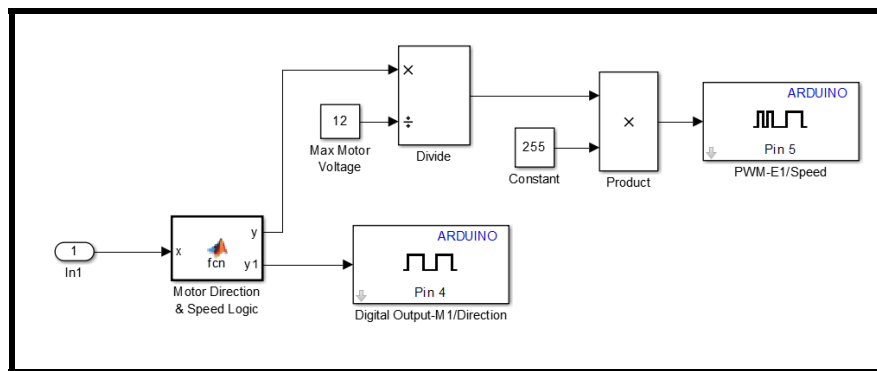

Figure 3.4: Motor Control Subsystem
15. Double-click the Subsystem block, and inside press Ctrl+V to paste the motor control blocks. Delete the “Out1” port and connect the “In1” port to the MATLAB function block, as in Figure 3.4.